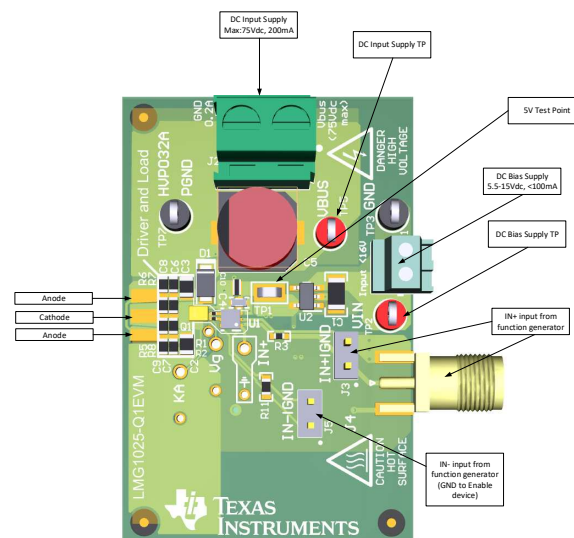

Figure 6. Recommended Connection Points and Feature Description
Connect the input and bias supplies as indicated in Figure 6.
1. Connect the input (J2) and bias supplies (J1) as shown in Figure 6, but do not power them on yet.
4. Power up the input supply (J2) (as shown in Figure 6) and set to the desired input voltage, but no higher than 75 Vdc. Set the current limit to 0.2 A. It is recommended to begin measurements at lower voltage, such as 10 V, to ensure the correct waveforms are being captured.